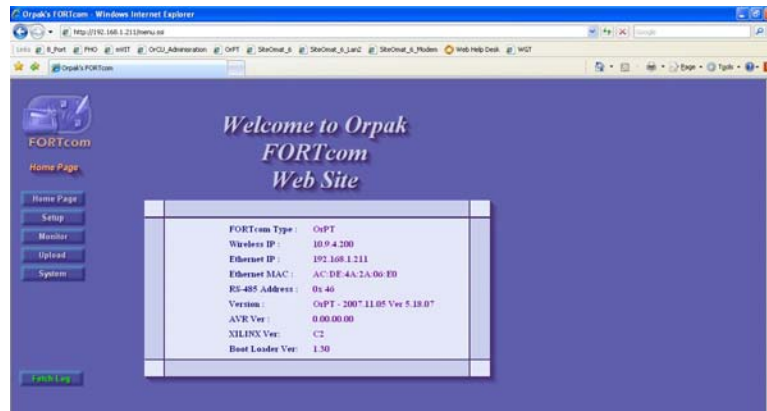

Figure 1-5.– FortCOM Web Site - Welcome Screen
4. Open the Web browser, and enter the default IP address of the HID Pod as it appears on the label on the unit's rear panel. The Setup Main Screen is displayed (see Figure 1-5)